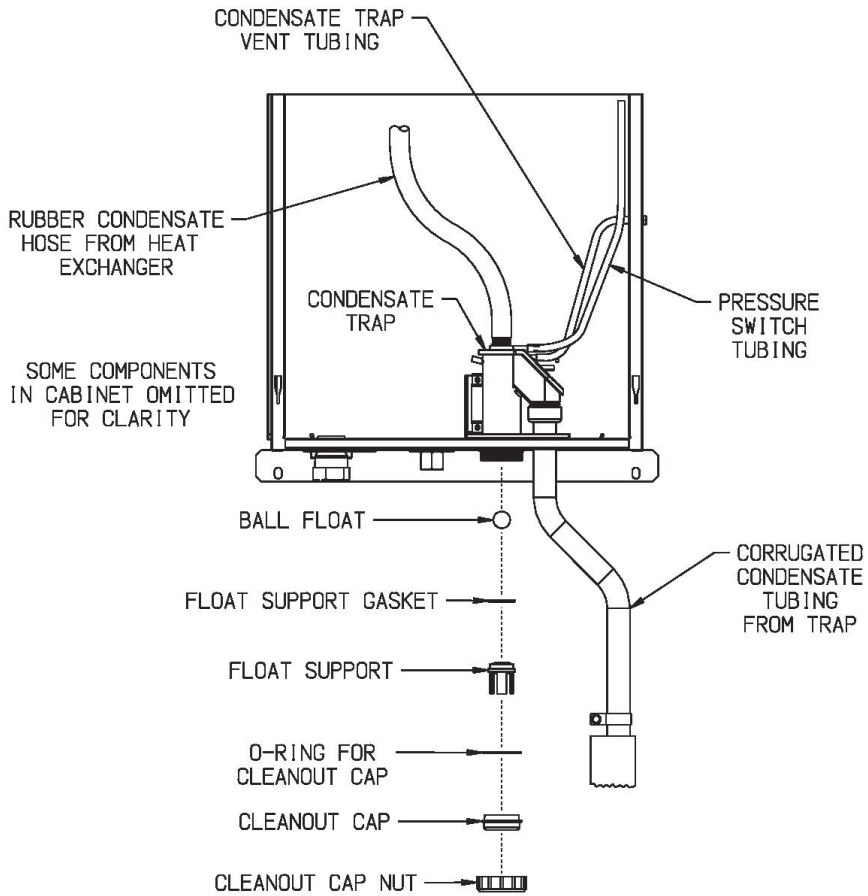

Figure 13.4: Condensate Trap Exploded Parts View
- p. **Inspect and clean the condensate trap.** Place a bucket under the condensate cleanout cap on the bottom of the boiler (see Figure 2.1) to catch water in the trap as well as the ball and ball support. Unscrew the cap, being careful not to lose the ball or ball support. Flush any debris found in the trap with water – do not use other cleaning agents. Reassemble the trap as shown in Figure 13.4.
**WARNING** Asphyxiation Hazard. Do not operate the boiler without the ball and ball support in place. Doing so could result in flue gas leakage into the indoors resulting in personal injury or death from Carbon Monoxide (CO) poisoning.